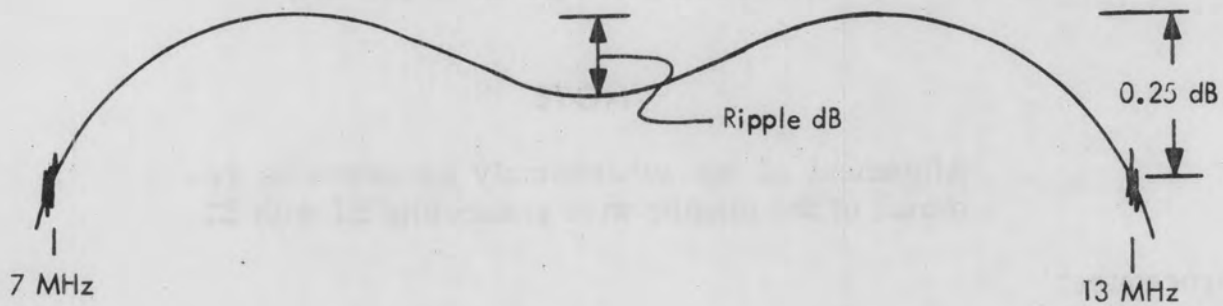

Figure 2. Response no. 1
- c. Adjust L7, L8, L9, and C28 for the response shown in figure 2.